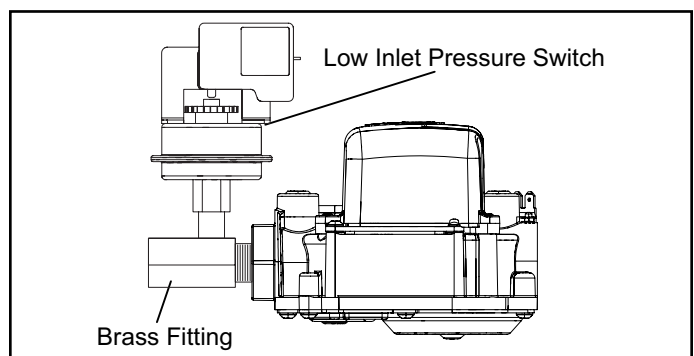
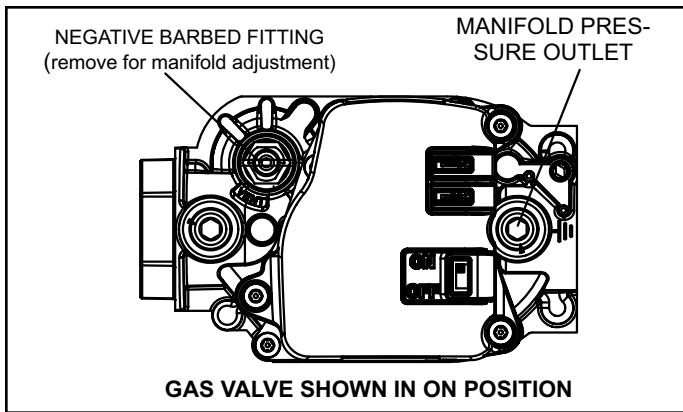

Figure 2. Gas Valve with Low Inlet Pressure Switch Location
Figure 3. Gas Valve
2. Remove the heating compartment access panel. Turn the automatic gas valve switch to the OFF position. See Figure 2 and Figure 3.
9. Thread provided brass fitting to gas valve inlet until hand tight. Using properly sized wrench, tighten fitting 2 to 3 full turns being careful to position the side port to allow clearance for the pressure switch and harness. See Figure 2.
NOTE: Some installations may require the pressure switch and fitting assembly to be positioned differently than shown in Figure 2.
- Move gas valve switch to **OFF**. See Figure 3.
- Wait five (5) minutes for any gas to clear out. If you then smell gas, **STOP!** Immediately call your gas supplier from a neighbor's phone. Follow the gas supplier's instructions. If you do not smell gas, go to the next step.
- Move gas valve switch to **ON**. See Figure 3.
When testing supply gas pressure, use the 1/8" N.P.T. supply line tap located on the gas valve to facilitate test gauge connection. See Figure 2. Check gas line pressure with unit firing at maximum rate. Low pressure may result in erratic operation or underfire. High pressure can result in permanent damage to gas valve or overfire.
- Connect test gauge to manifold pressure tap (Figure 2) on gas valve.
- If necessary, make adjustments. Figure 2 shows location of adjustment screw.